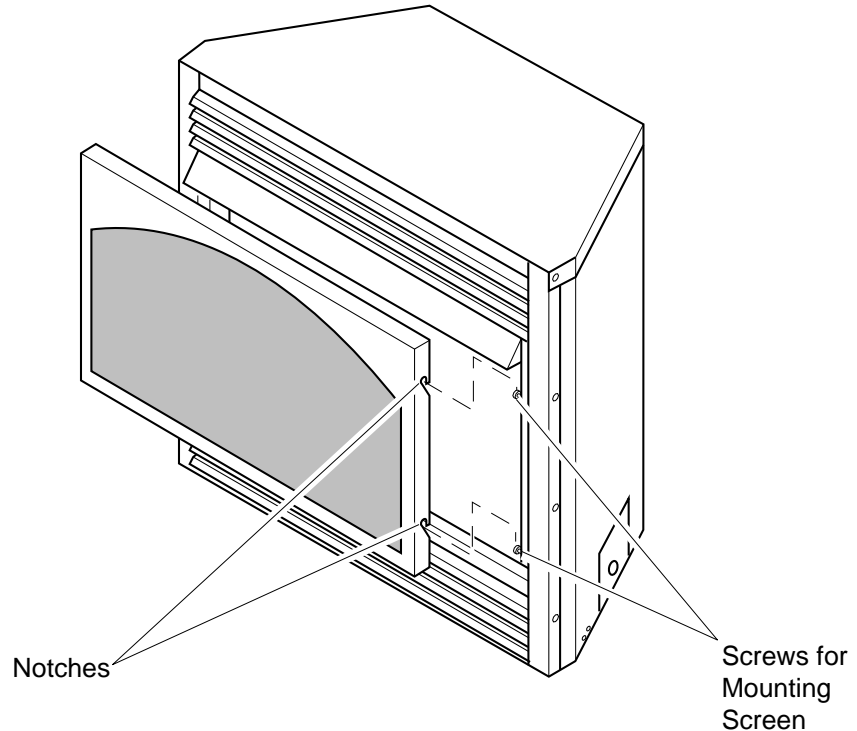

Figure 25 - Installing Fireplace Screen
5. Install fireplace screen by slipping notches of fireplace screen over screws on front of fireplace (see Figure 25).